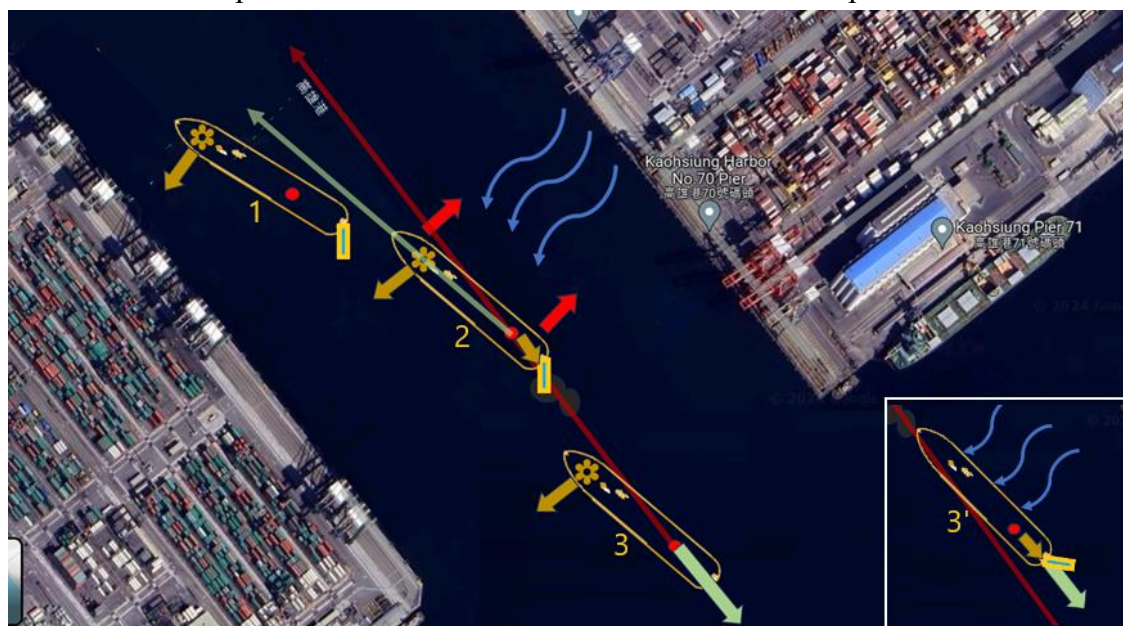

Figure 8 – 08 astern sailing in the center of fairway
- In position 3' in figure 8 – 08, we see the pivot point is at starboard side of center EBL.
In figure 8 – 09, the maneuvering is almost the same as figure 8 - 08.